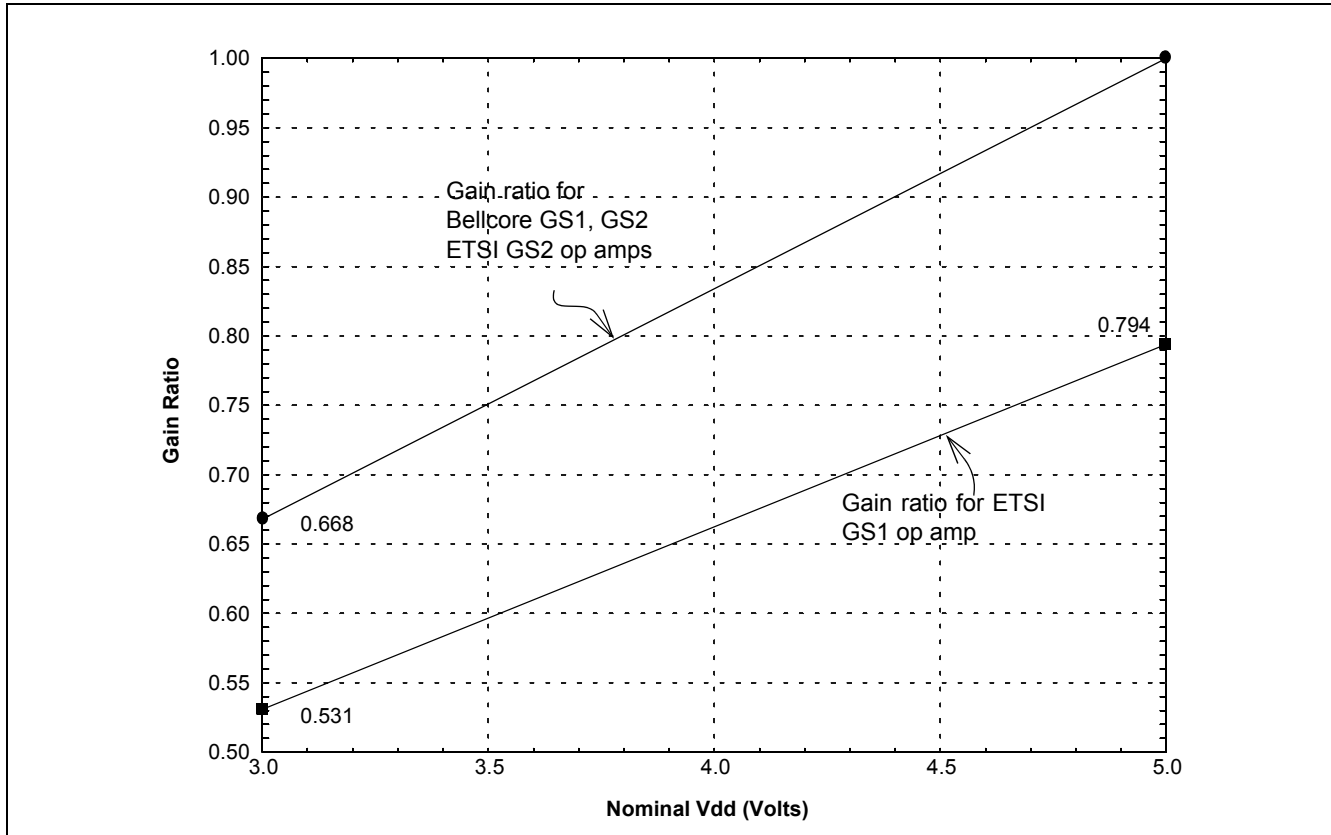

Figure 8 - Gain Ratio as a Function of Nominal Vdd
#### Gain Setting Resistor Calculation Example for Figure 8:
- For the desired nominal Vdd, use Figure 8 to determine approximate  $A_v$ .